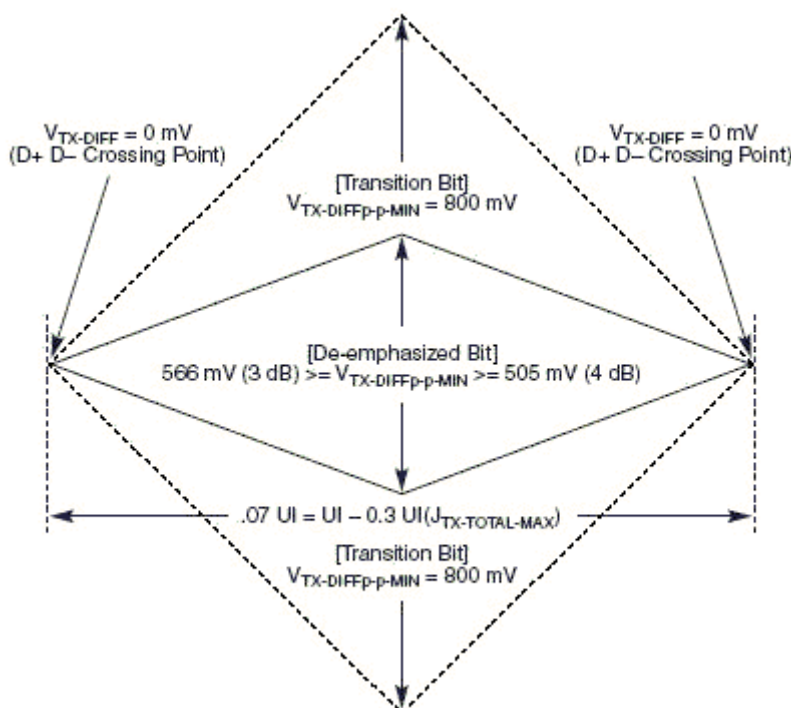
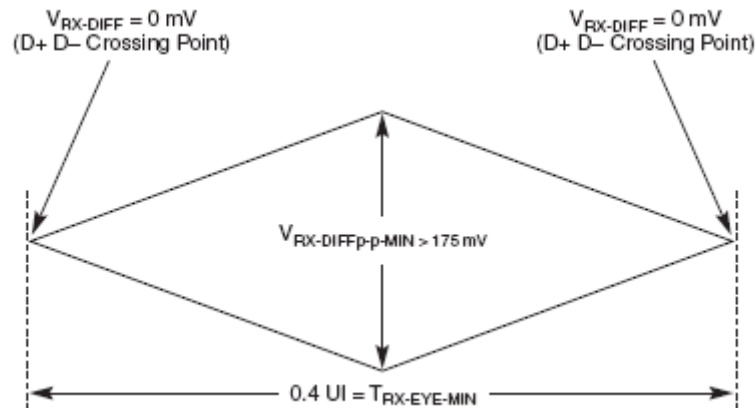
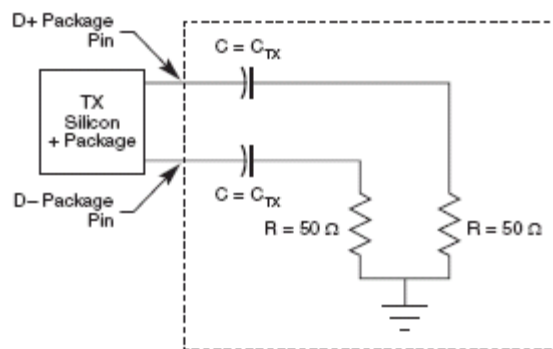

Figure 56. Minimum Transmitter Timing and Voltage Output Compliance Specifications
Figure 57. Minimum Receiver Eye Timing and Voltage Compliance Specification
Figure 58. Compliance Test/Measurement Load
- 2.) Specified at the measurement point into a timing and voltage compliance test load as shown in Figure 58 and measured over any 250 consecutive TX UIs. (Also refer to the transmitter compliance eye diagram shown in Figure 56.)
- 4.) The transmitter input impedance shall result in a differential return loss greater than or equal to 12 dB and a common mode return loss greater than or equal to 6 dB over a frequency range of 50 MHz to 1.25 GHz. This input impedance requirement applies to all valid input levels. The reference impedance for return loss measurements is 50 Ω to ground for both the D+ and D– line (that is, as measured by a vector network analyzer with 50- Ω probes—see Figure 58). Note that the series capacitors C_{TX} is optional for the return loss measurement.
- 5.) Measured between 20%–80% at transmitter package pins into a test load as shown in Figure 58 for both $V_{\text{TX-D+}}$ and $V_{\text{TX-D-}}$.
The TX eye diagram in Figure 56 is specified using the passive compliance/test measurement load (see Figure 58) in place of any real PCI Express interconnect +RX component.
- 2.) Specified at the measurement point and measured over any 250 consecutive UIs. The test load in Figure 58 should be used as the RX device when taking measurements (also refer to the receiver compliance eye diagram shown in Figure 57). If the clocks to the RX and TX are not derived from the same reference clock, the TX UI recovered from 3500 consecutive UI must be used as a reference for the eye diagram.
- 4.) The receiver input impedance shall result in a differential return loss greater than or equal to 15 dB with the D+ line biased to 300 mV and the D- line biased to -300 mV and a common mode return loss greater than or equal to 6 dB (no bias required) over a frequency range of 50 MHz to 1.25 GHz. This input impedance requirement applies to all valid input levels. The reference impedance for return loss measurements for is 50 Ω to ground for both the D+ and D- line (that is, as measured by a vector network analyzer with 50- Ω probes, see Figure 58). Note that the series capacitors CTX is optional for the return loss measurement.
The RX eye diagram in Figure 57 is specified using the passive compliance/test measurement load (see Figure 58) in place of any real PCI Express RX component.
In general, the minimum receiver eye diagram measured with the compliance/test measurement load (see Figure 58) will be larger than the minimum receiver eye diagram measured over a range of systems at the input receiver of any real PCI Express component. The degraded eye diagram at the input receiver is due to traces internal to the package as well as silicon parasitic characteristics which cause the real PCI Express component to vary in impedance from the compliance/test measurement load. The input receiver eye diagram is implementation specific and is not specified. RX component designer should provide additional margin to adequately compensate for the degraded minimum receiver eye diagram (shown in Figure 57) expected at the input receiver based on some adequate combination of system simulations and the return loss measured looking into the RX package and silicon. The RX eye diagram must be aligned in time using the jitter median to locate the center of the eye diagram.
The reference impedance for return loss measurements is $50\ \Omega$ to ground for both the D+ and D– line (that is, as measured by a vector network analyzer with $50\text{-}\Omega$ probes, see Figure 58). Note that the series capacitors, CTX, are optional for the return loss measurement.
The AC timing and voltage parameters must be verified at the measurement point, as specified within 0.2 inches of the package pins, into a test/measurement load shown in Figure 58.